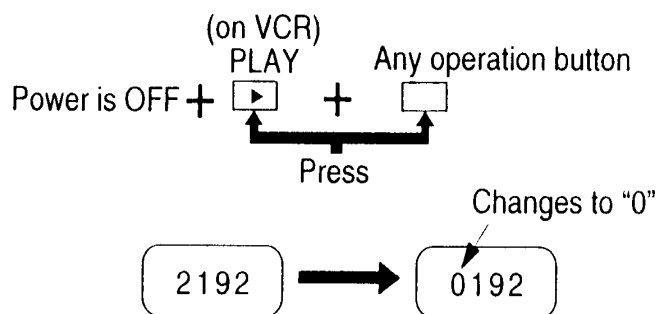

Fig. 28 - Key Detection
4. To check for "key detection" press the Play button with the power off and press any key (except power) on the instrument or the remote hand unit. The first digit of the fault code will change to zero (0) only if a key is detected (Fig. 28). ■